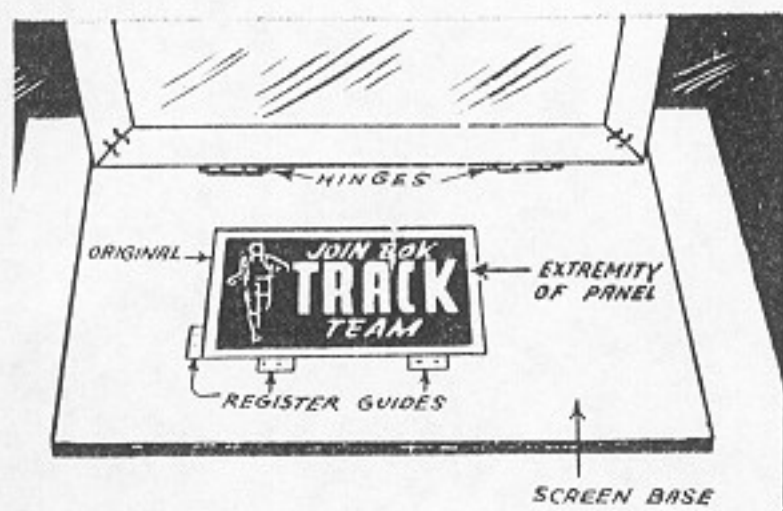

Fig. 103. Original in Position on Screen Base
2. Raise the screen frame and place the original copy in register, Fig. 103. The register guides may be cut from the printing stock.